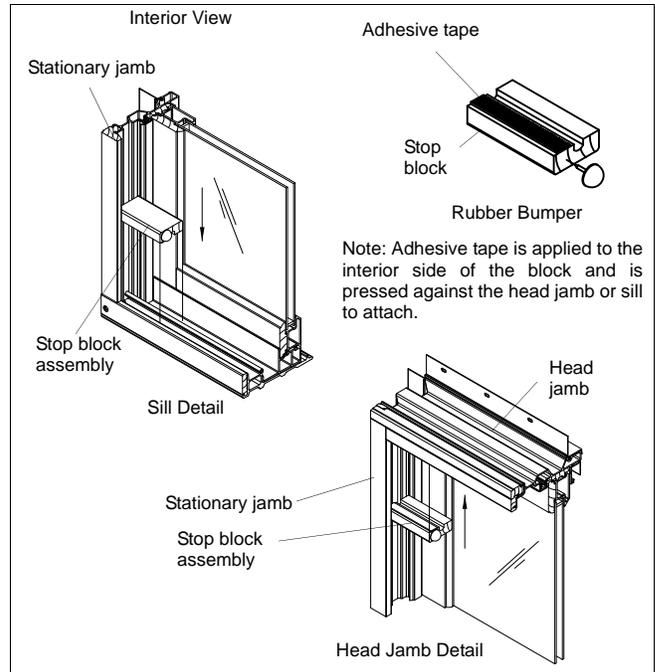

Figure 9
9. Hold each block in place and determine which end to install the bumper in (bumper toward operator panel). Center the bumper on the interior side of the end and tap into block. See figure 9. Remove adhesive tape backing from block. Position against the stationary side jamb as shown and press into place.